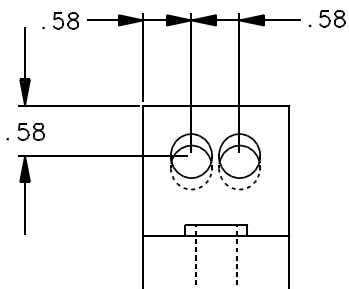

Figure 41
- Figure 41 shows the location of the third .58 dimension.